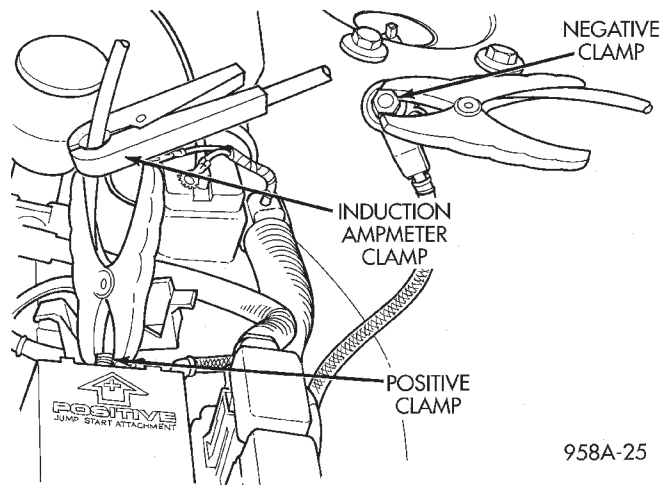

Fig. 3 Volt-Ammeter-Load Tester Connections
(1) Disconnect and isolate the battery negative remote cable first. Then disconnect and isolate the positive Jump Start cable.
(2) Use a suitable Volt/Ammeter/Load tester connected between remote battery terminals (Fig. 2) and (Fig. 3). Check the open circuit voltage of the battery. Voltage should be equal to or greater than 12.4 volts. If below 12.4 volts charge battery, perform the same test at the battery. Remove both battery cables the negative cable first. If the voltage is still below 12.4 perform Battery Charging procedures.